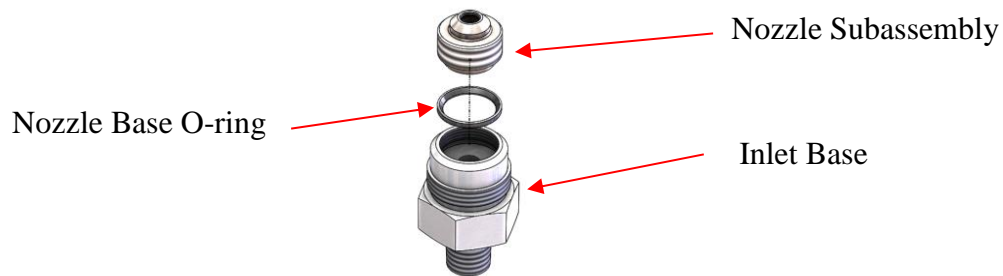

Figure 13: Nozzle/Seat Subassembly
10. Remove and discard the nozzle base o-ring. See Figure 13.